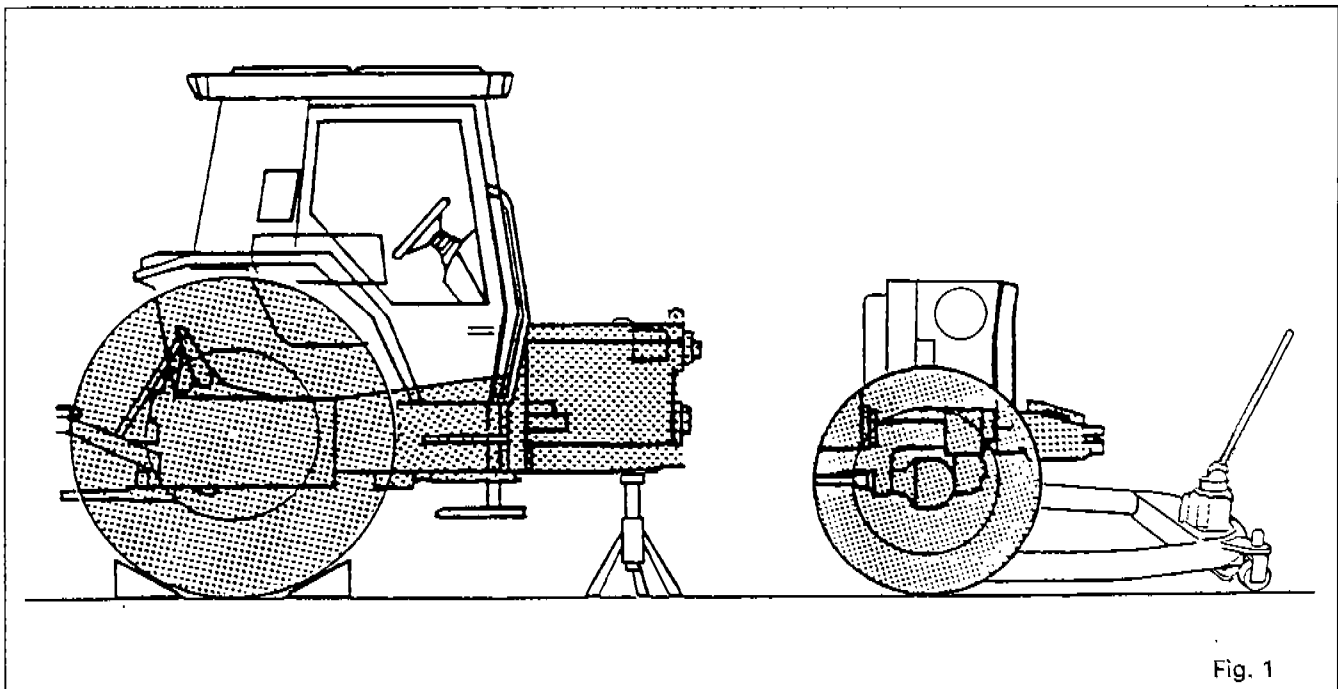

Fig. 1
11. Support the tractor under the frame using a trolley jack and separate the engine from the frame (Fig. 1).